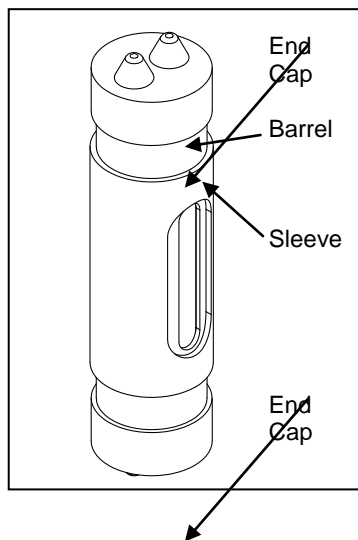

Figure 1-3132 #2
Step 1-3132 #9: (See Figure 1-3132 #2)